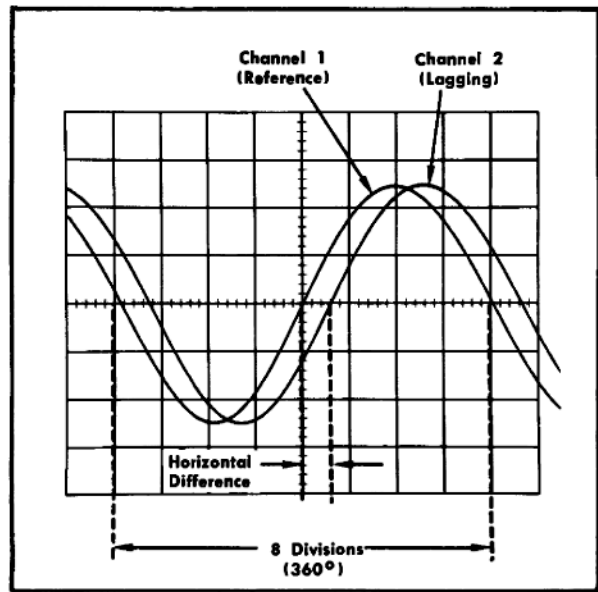
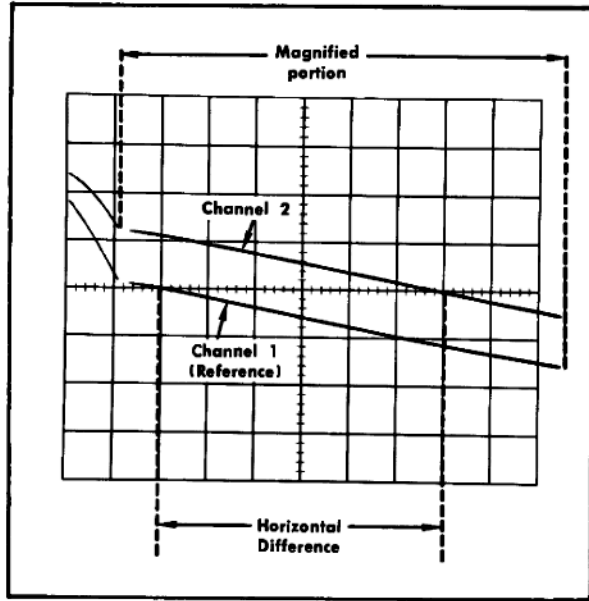

Fig. 2-15. Measuring phase difference.
Fig. 2-16. Accurate phase-difference measurement with increased sweep rate.
9. Turn the Type 3B5 VARIABLE control until one cycle of the reference signal (channel 1) occupies exactly eight divisions between the first and ninth graticule vertical lines (see Fig. 2-15). Each division of the graticule represents 45° of the cycle ($360^\circ \div 8 \text{ divisions} = 45^\circ/\text{division}$). The sweep rate can be stated in terms of degrees as 45°/division.
Example. Assume a horizontal difference of 0.6 divisions with a sweep rate of 45°/div as shown in Fig. 2-15
Example. If the sweep rate were increased 10 times with the magnifier, the magnified sweep rate would be $45^\circ \div 10 = 4.5^\circ/\text{division}$. Fig. 2-16 shows the same signals as used in Fig. 2-15 but with the DLY'D SWP MAG switch set to $\times 10$ (DELAY dial set to 0.92). With a horizontal difference of 6 divisions, the phase difference would be: